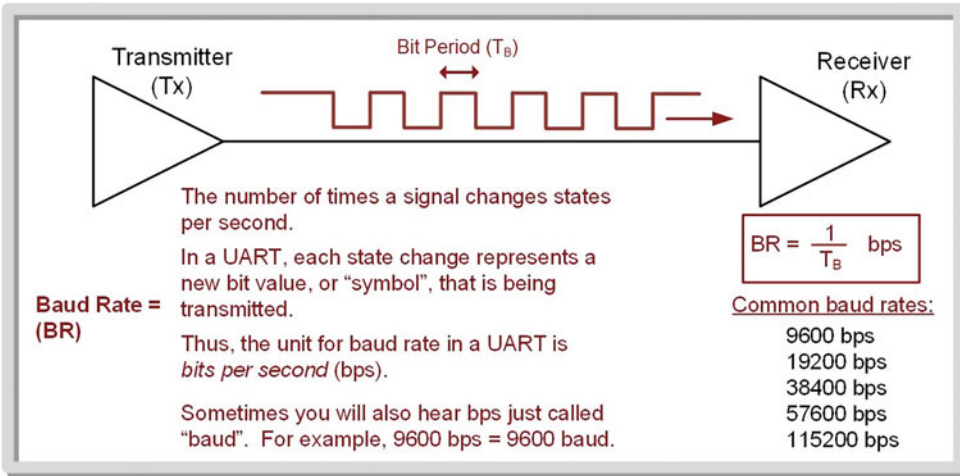

Fig. 14.1
The first step in setting up a UART is to decide on a common data rate between the Tx and Rx. In a UART, this is called a *baud rate* (BR). The baud rate is the fastest rate at which the data line changes states. On the MSP430, the only two logic states allowed are HIGH and LOW. This means that the baud rate also represents the fastest rate that a bit, or symbol, can be transmitted. The baud rate and bit period (T_B) are related by $BR = 1/T_B$. The baud rate must be manually set in both the Tx and Rx prior to data transmission. A UART uses a baud rate that comes from a list of commonly accepted values. These typically range from 9600 to 115,200 baud. The maximum rate of a UART stems from its asynchronous nature as it becomes more and more difficult for the receiver to recover the transmitted data as the rates get higher and the timing differences between each device's own clock becomes more noticeable. Figure 14.1 gives an overview of the baud rate and bit period relationship in a UART.